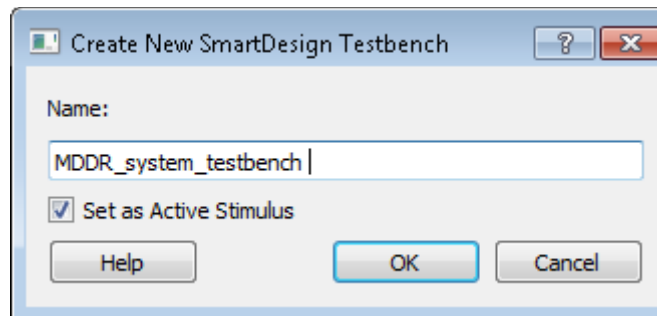

Figure 17. Create New SmartDesign Testbench Dialog Box
3. The **Create New SmartDesign Testbench** dialog box is displayed, as shown in Figure 17.